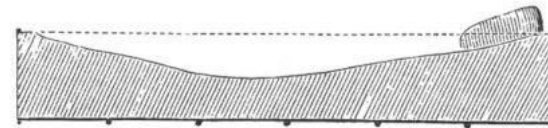

Fig. 2.
*Preparing the Ground for a Bed.*—Travellers should always root up the stones and sticks that might interfere with the smoothness of the place where they intend to sleep. This is a matter worth taking a great deal of pains about; the oldest campaigners are the most particular in making themselves comfortable at night. They should also scrape a hollow in the ground, of the shape shown in fig. 2 (next page), before spreading their sleeping-rugs. It is disagreeable enough to lie on a perfectly level surface, like that of a floor, but the acme of discomfort is to lie upon a convexity. Persons who have omitted to make a shapely lair for themselves, should at